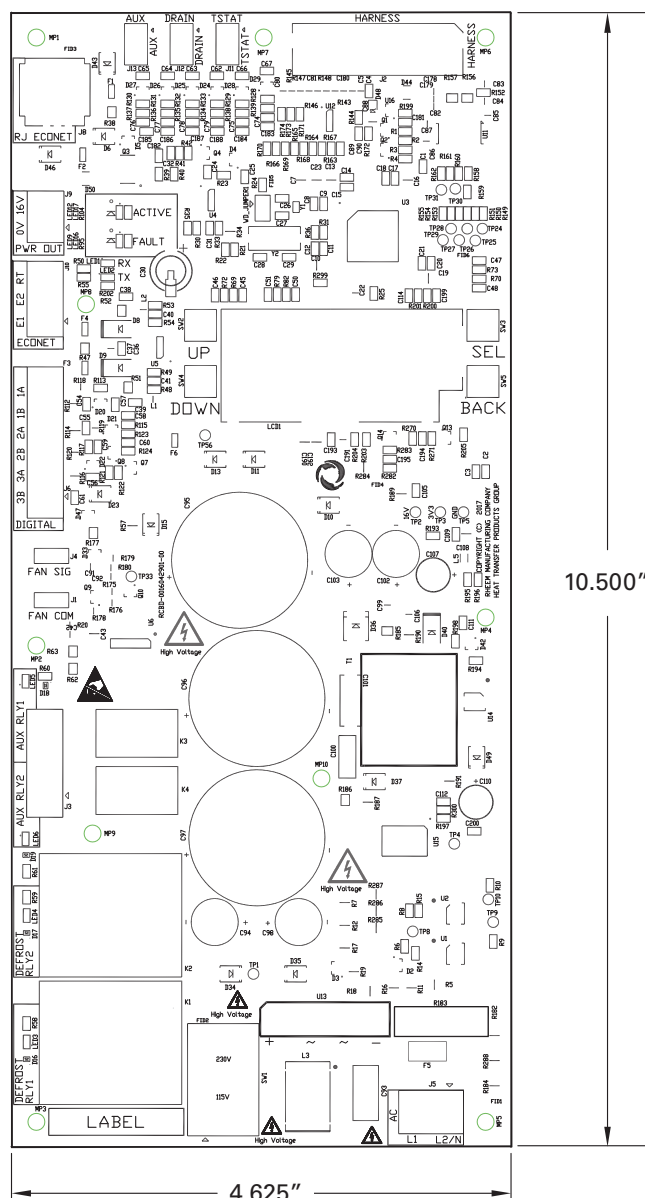

Figure 2
- Verify correct voltage from main power supply to evaporator unit. Set the Voltage Selector Switch (Figure 2) on the controller board to the correct voltage setting (115V/230V) **before** powering up the unit.
- Connect main power to the evaporator unit at the L1/L2 and GND terminals on the terminal board as shown in the wiring diagram (Figures 2, 3, 4).